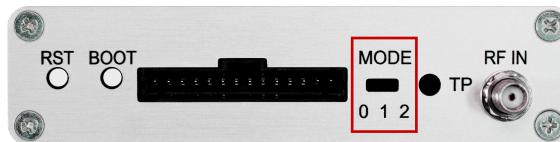

Figure 4: Interface switch in the front panel
1. Set the interface switch in the EVK front panel to mode 0, as shown in Figure 4.